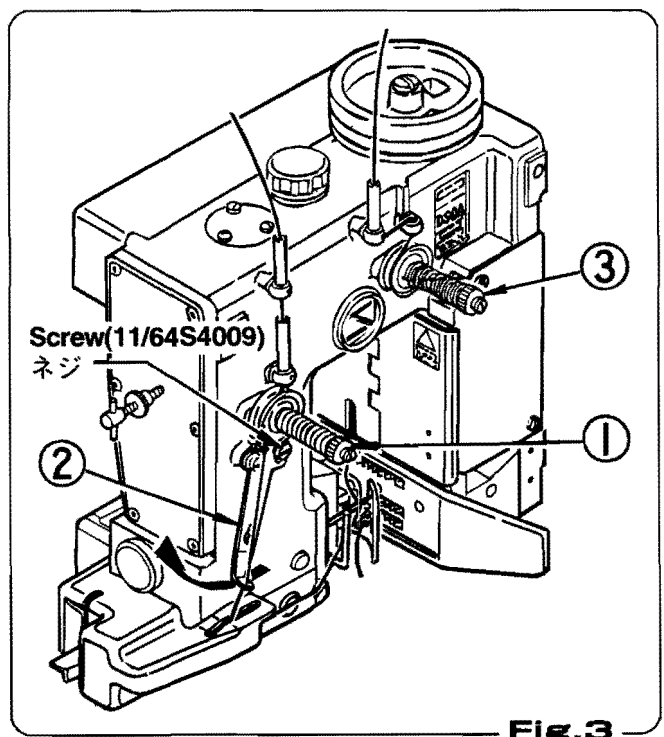

Fig.3
1. Thread Tension (Figure 3)
Proper thread tension may slightly vary with the type of bag and thread. The norm is given below. Thread tension regulators are mounted so that the tension is uniform for stitch length. To adjust the tightness of seam, adjust ①,③ in Figure 3.
1. 糸調子の調整 (Fig.3 参照)
糸調子<Fig.3-①③>の調整は袋と糸の種類で多少の違いがありますが、原則として次の通りに調整して下さい。